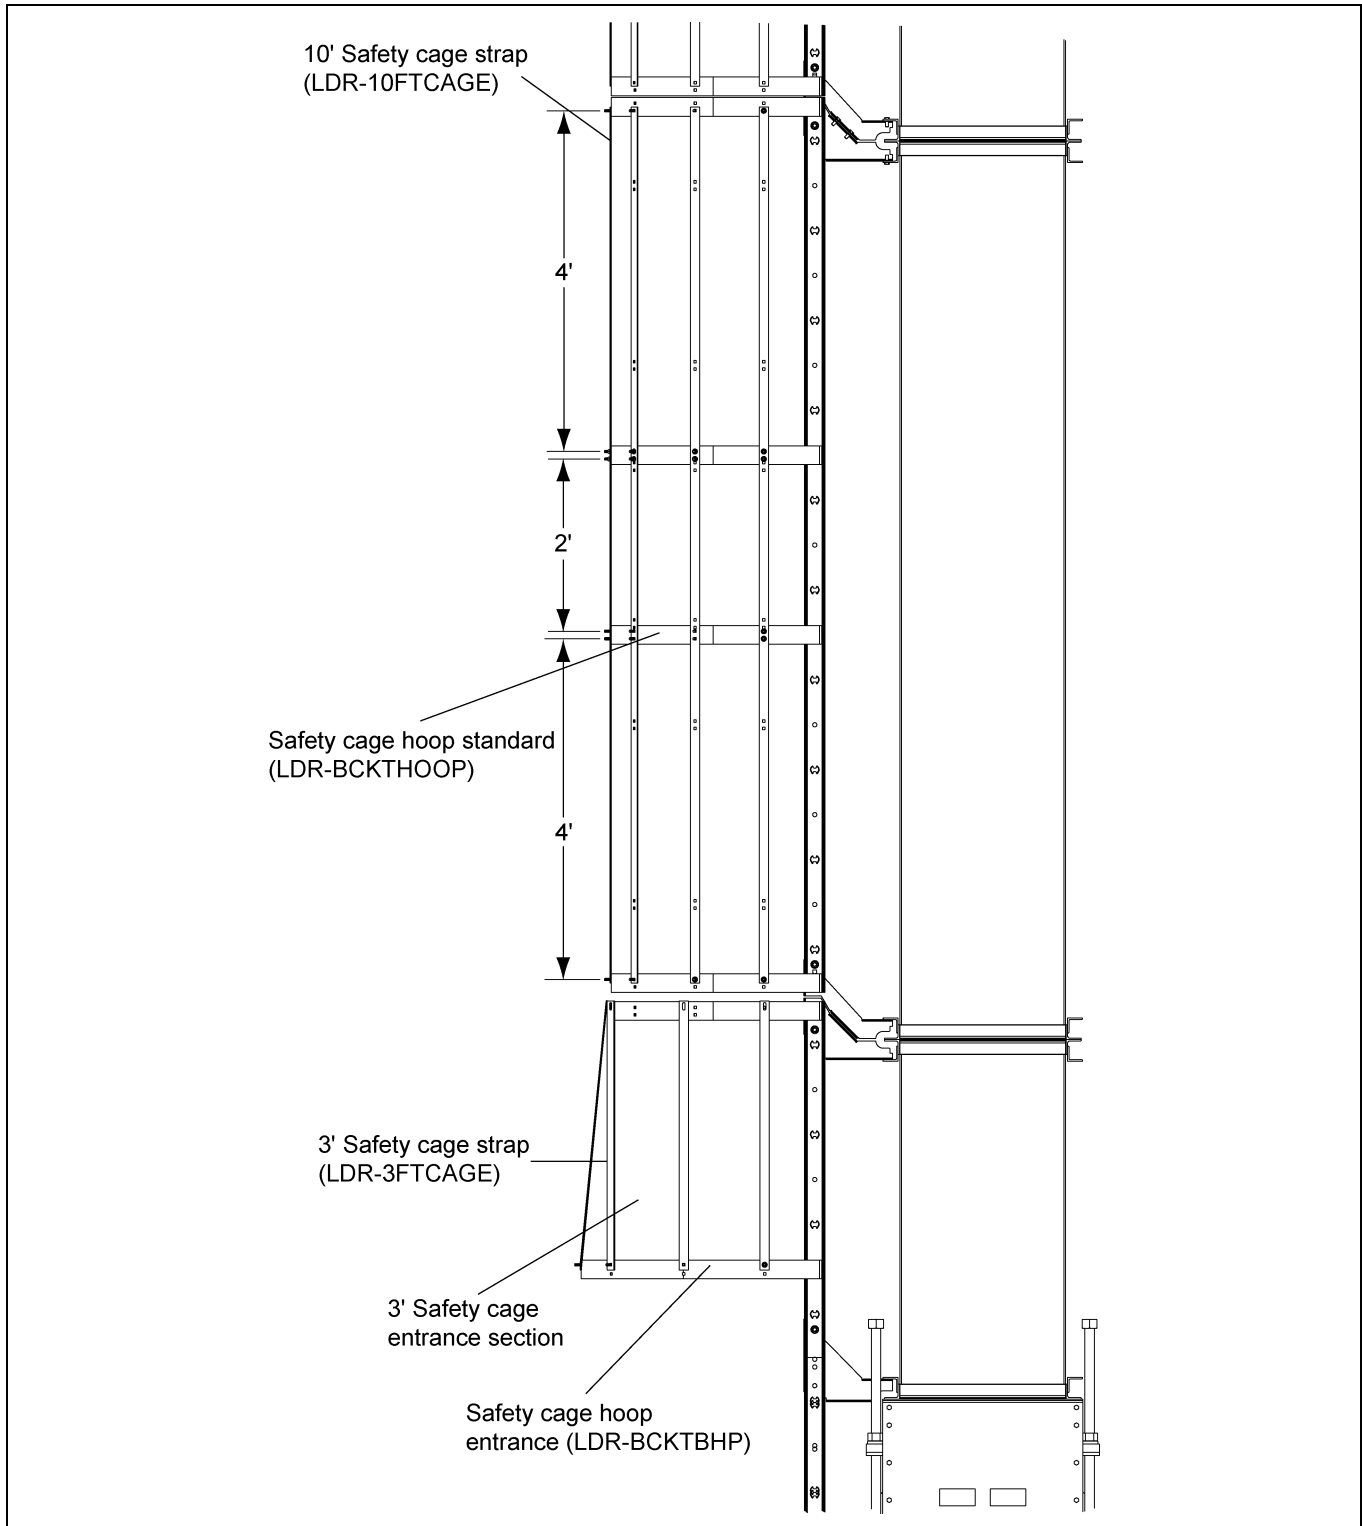

Figure 6W 10' Safety Cage Section
1. Locate safety cage hoops (LDR-BCKTBHP) along the ladder rails where the safety cage hoops will be installed. **NOTE:** The end hoops of a 10' section are spaced 4' from the two (2) middle hoops, which are spaced 2' apart. See Figure 6W for spacing. (See Figure 6W.)